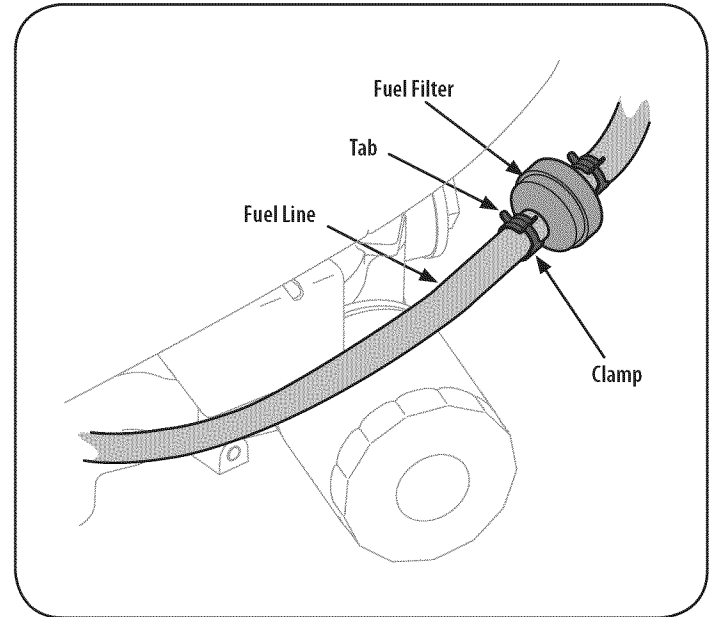

Figure 21
2. Use pliers to squeeze tabs on the clamps, then slide the clamps away from the fuel filter. See Figure 21.